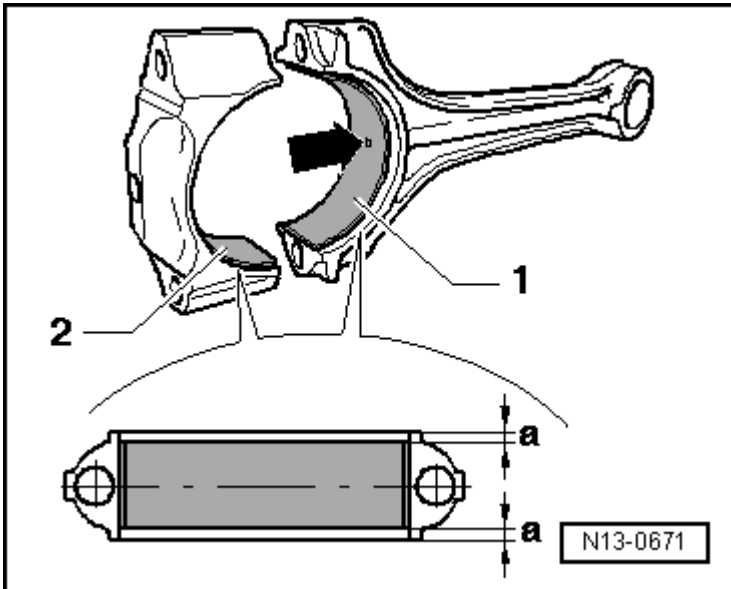

Fig. 26: Identifying Bearing Shells - Installed Positions
- Note the installed position, refer to **Fig. 26**.